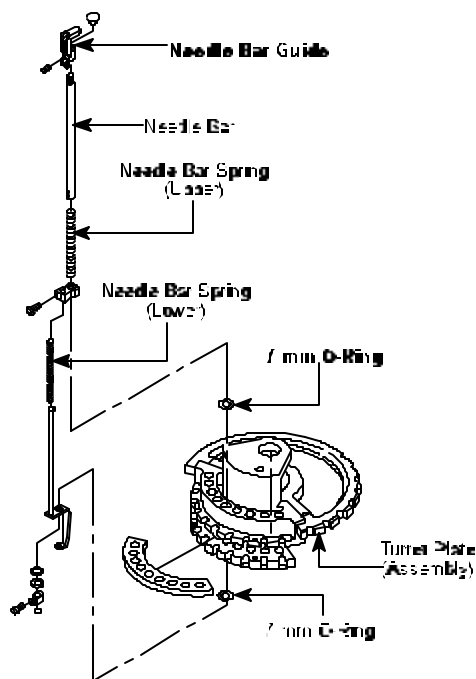

Figure 8
18. **Slide** Needle Bar through 7 mm O-ring positioned over hole onto of Turret Plate (Assembly). See Figure 8.
19. Continue **inserting** Needle Bar through Turret Plate (Assembly) See Figure 8.
20. **Press** Needle Bar and Presser Foot together making sure Presser Foot Shaft lines up with Needle Bar Guide Notch. See Figure 8